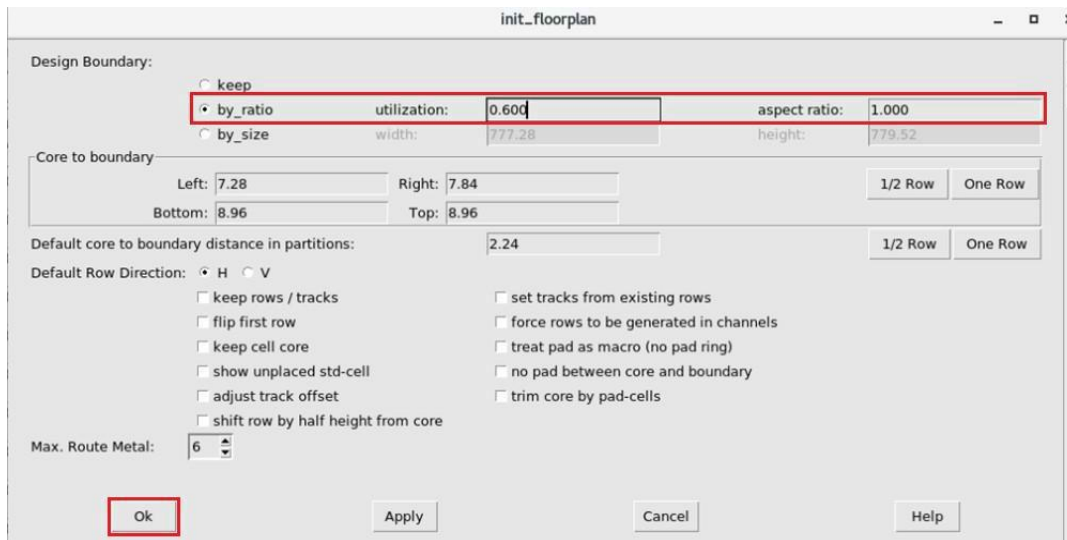

Figure 10: init\_floorplan window with utilization 0.50 (New)
- Above, Figure 10, illustrates physical pin violations, totaling 189. Thus, the current pin locations must be removed initially using the following command.